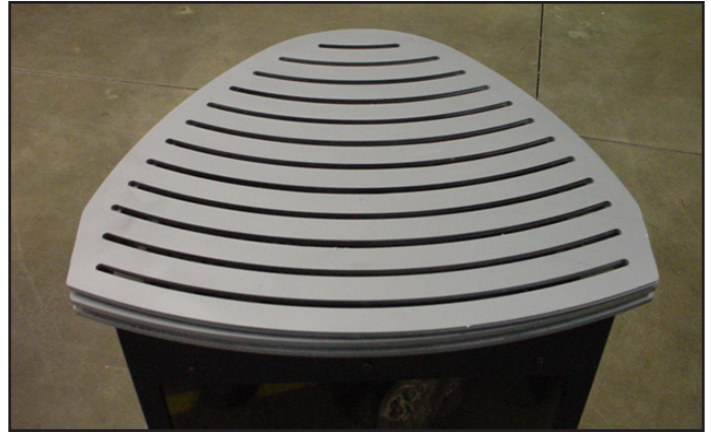

Figure 9.10
9. Install the new top as shown in Figure 9.10.